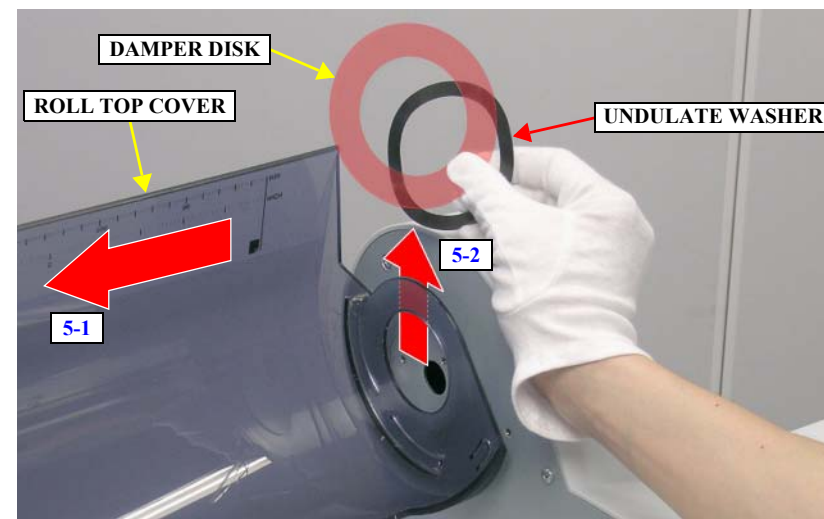

Figure 4-31. Removing the UNDULATE WASHER and DAMPER DISK
5. Slide the ROLL TOP COVER leftward and remove the UNDULATE WASHER and the DAMPER DISK. *See Figure 4-31.*